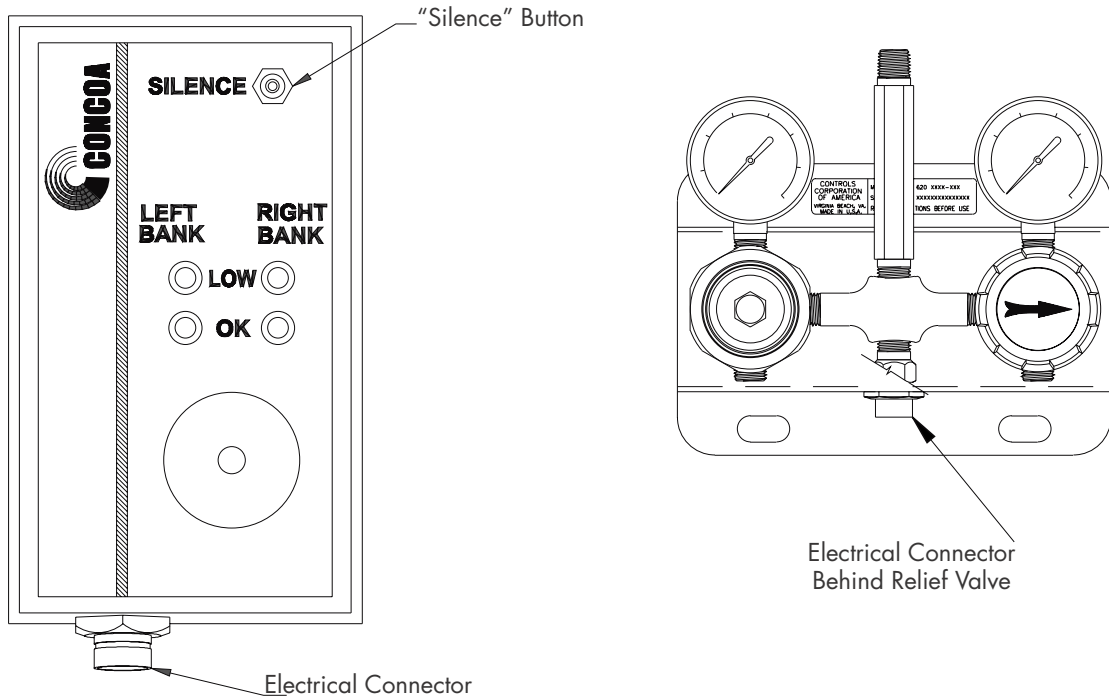

Figure 2. Electrical Connector Locations
7. Plug the cable into the male connector located on the bottom of the switchover system bracket. Plug the other wire end into the male connector located on the remote alarm. (See Figure 2.)